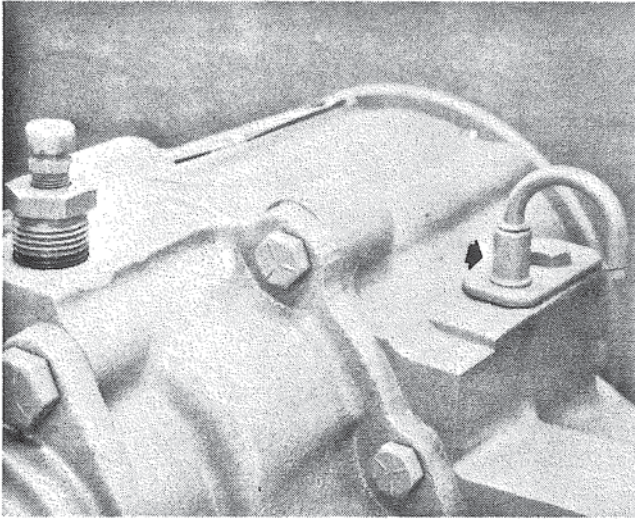

Figure 11. Breather and Oil Level Tube Locations.
6. **Breather.** Remove the breather and reducer from the rear cover only if cleaning and/or replacement of the parts is necessary. Figure 11.
7. **Oil Level Gauge.** Remove the oil level gauge and screw from the oil level tube. Figure 11. Remove the tube from the main housing.